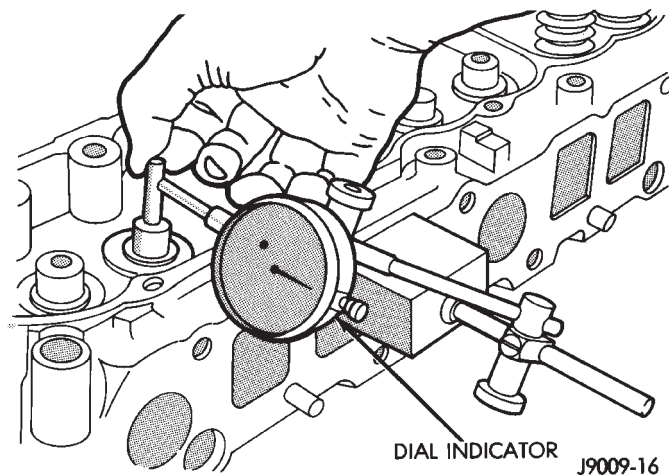

Fig. 67 Measurement of Lateral Movement of Valve Stem
(1) Use a dial indicator to measure the lateral movement of the valve stem (stem-to-guide clearance). This must be done with the valve installed in its guide and just off the valve seat (Fig. 67).
(2) Correct clearance is 0.025-0.0762 mm (0.001-0.003 inch). If indicated movement exceeds the specification ream the valve guide to accommodate an oversize valve stem.